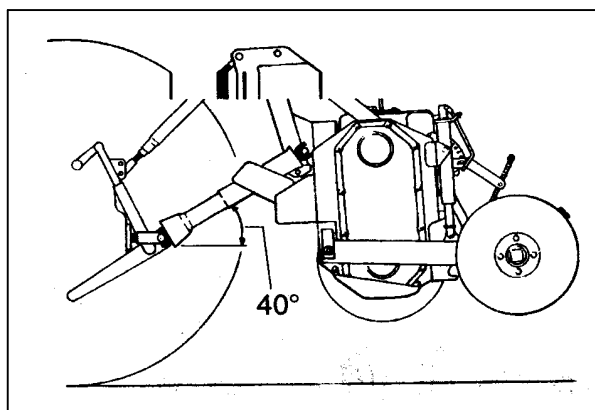

Fig. 4:1b
9. Before engaging the tractor PTO, check that the length of the PTO drive shaft is within the specified operating range when the machine is in the horizontal and raised positions. When raised, the angle on the universal joint must not exceed 40° or damage may occur (see fig 4:1b).